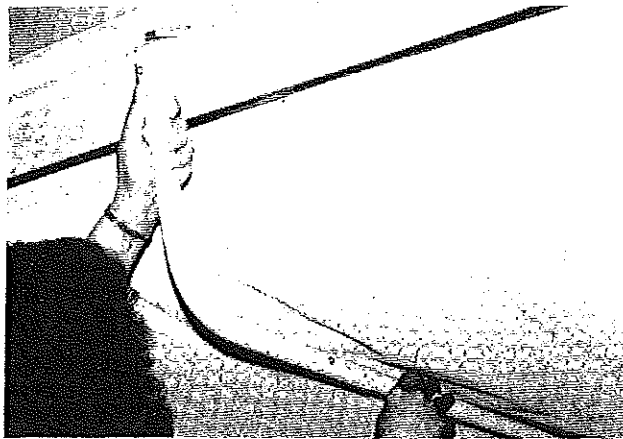

FIGURE 32
36. To completely support the tent enclosure over the bed (front and rear), attach the bed bow support by inserting the straight end into the bed bow. Insert the rounded end of the bed bow support into the roof retainer. See Figures 32 and 33.
9. Detach both front and rear bed bow supports from the roof retainer and from the bed bow. Lay the bed bow supports under each mattress. See Figure 32.